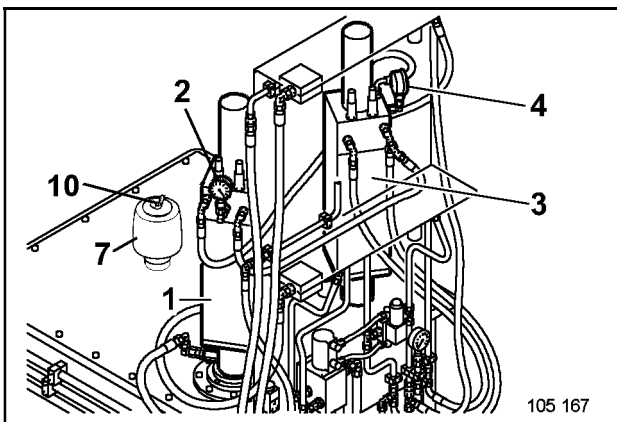

Fig. 3-129:
This oil pressure is reduced so that the pressure indicated by pressure gauge (2, Fig. 3-129:) is 35 – 40 bars (507-580psi) and by pressure gauge (4) is 49 – 51 bar (710-739psi).